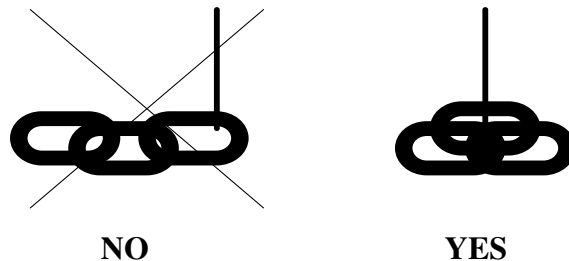

Figure 8-1 Using Salvaged Chain as an Anchor - Attaching the Anchor Line
- Attach the anchor line at the center of mass of the anchor so that the IES cannot pick up one end of the weight. For example, if using salvaged anchor chain, clump the chain together so that it reacts as a single mass... see Figure 8-1.